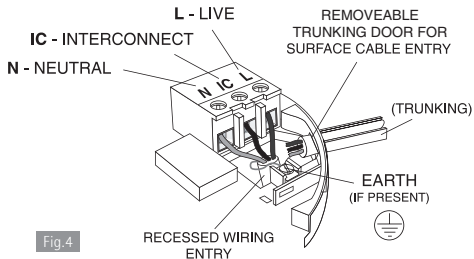

Fig.4
4. If the mains wires are recessed, bring the wires through the rear hole in the mounting plate as shown in Figure 4.
- (a) position the mounting plate so the cable trunking is as shown in Figure 4.